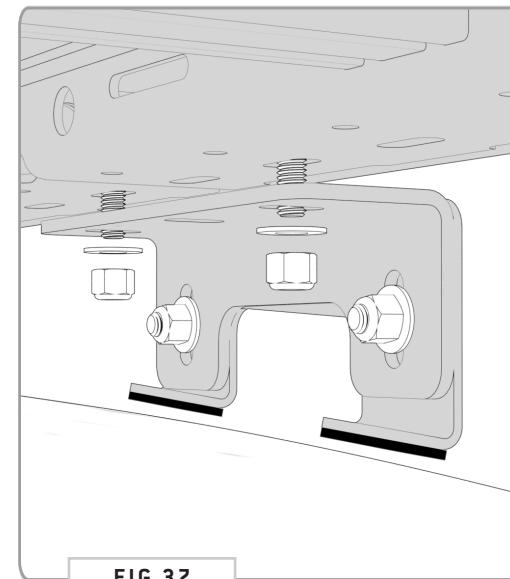

FIG 37
**13.2 Attach Support Bracket Assemblies to Rack:** Mount the **Support Bracket Assemblies** to the **Safari Rack** in the location shown in FIG 37 using (2ea) 3/8-16 X 1 Button Head Hex Drive Screws, 3/8 Screw Flat Washers and 3/8-16 Nylon Locknuts. Note that the **Support Foot Bracket** just overlaps onto the **Side Rail** enough to catch one hole.